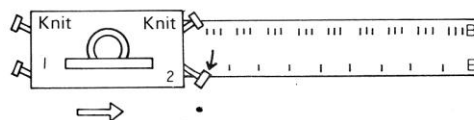

Fig.70
With carriage on left. Pull forward the leading return cam lever (right hand) to No.2 (Fig.70), and move the carriage from left to right so that the tucking needles in position (E) will knit along with the rest and align in position (B).